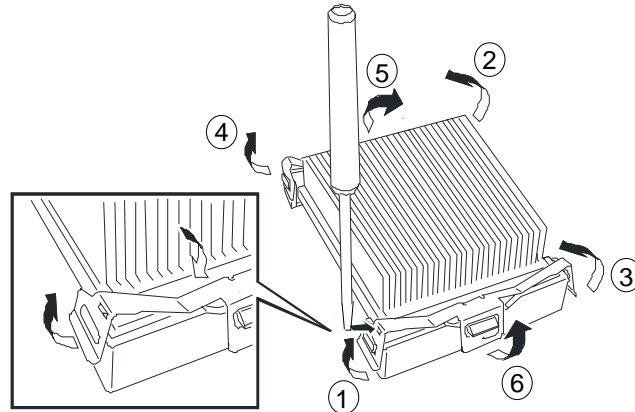

Figure 4-16. Removing the Processor Heatsink
5. Remove the heat sink from the top of the processor by inserting a small screwdriver into the slots on its heat sink clips. Release the clip pressure points in the order (1-6) shown in Figure 4-16.